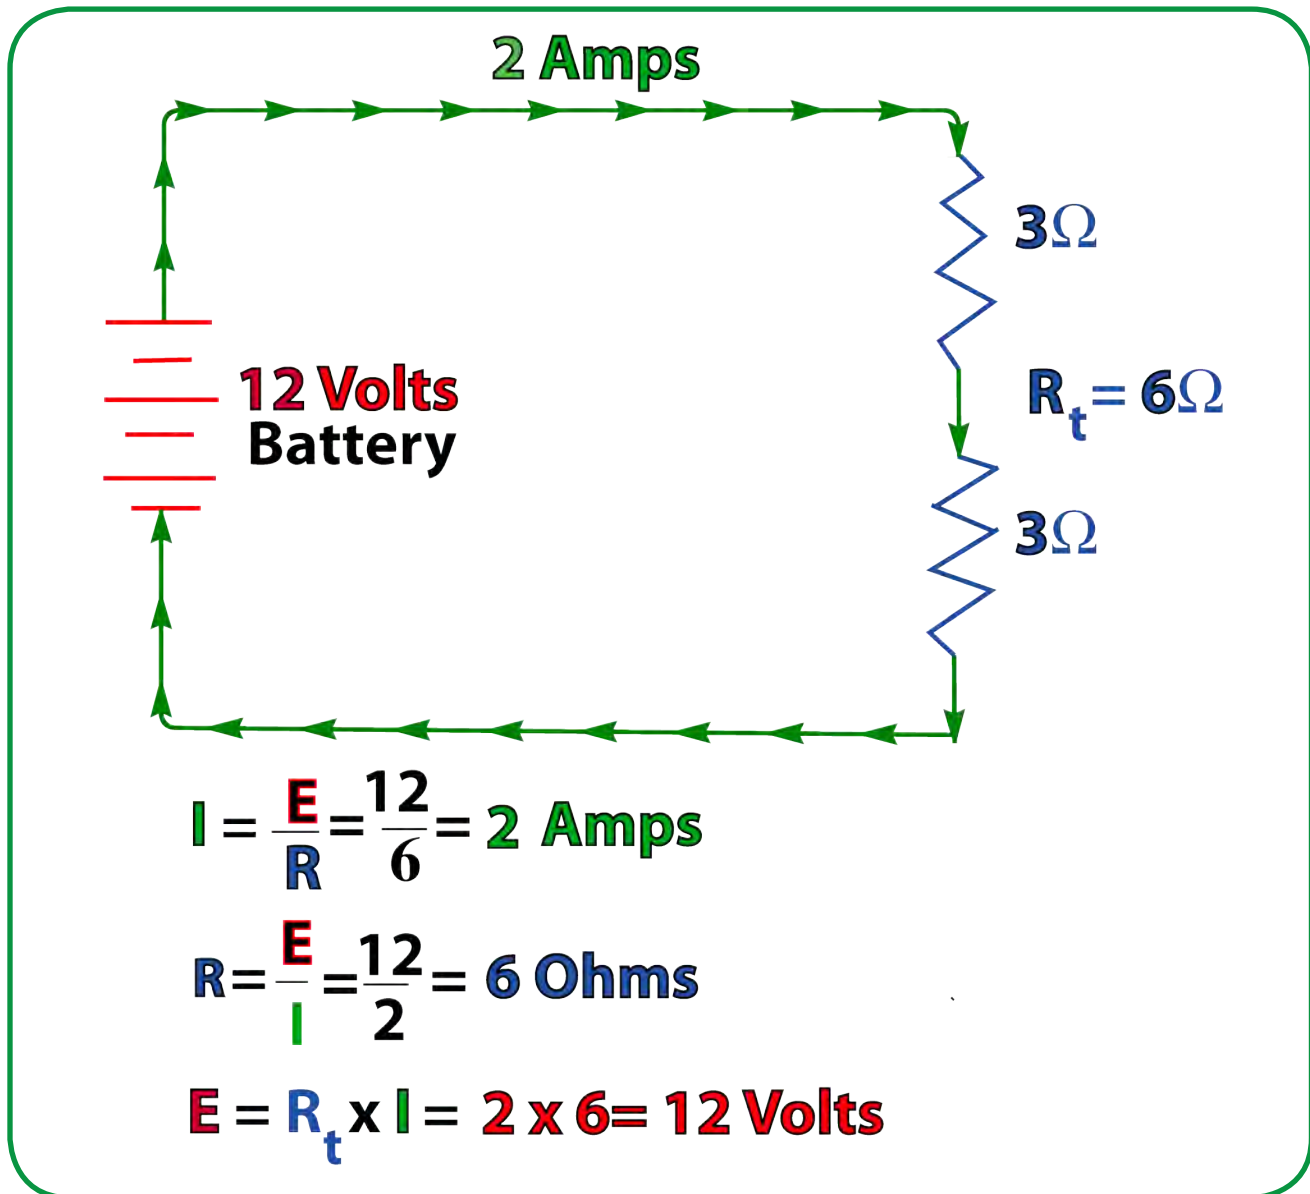

Fig. 6-4. Series Circuit.
- The total resistance is equal to the sum of the individual resistors/components. Refer to figure 6-4.